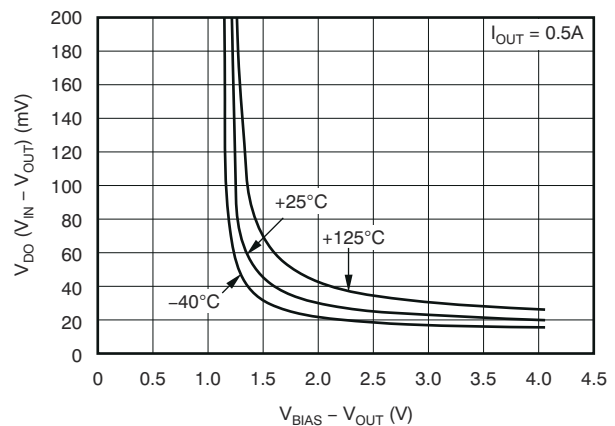

Figure 6-6. Dropout Voltage vs $(V_{BIAS} - V_{OUT})$ and Temperature (T_J)
(1) Adjustable devices tested at 0.8 V; resistor tolerance is not taken into account.
(2) Dropout is defined as the voltage from V_{IN} to V_{OUT} when V_{OUT} is 3% below nominal.
(3) 3.25 V is a test condition of this device and can be adjusted by referring to Figure 6-6.